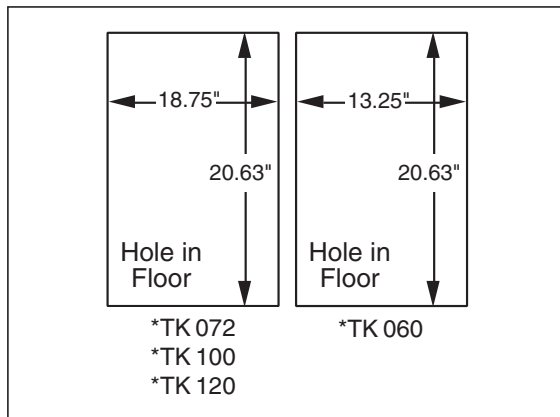

Figure 4. Opening in Wood Floor
1. Cut hole and frame the hole per the dimensions in Figure 4.